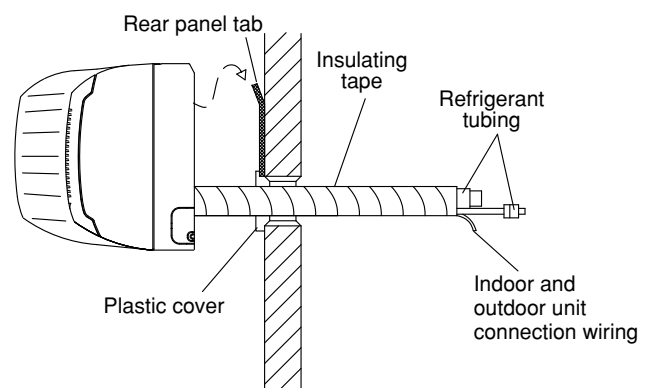

Fig. 3-60
- (1) Shape the refrigerant tubing so that it can easily go into the hole. (Fig. 3-60)
- (2) After performing a leak test, wrap both the refrigerant tubing and drain hose together with insulating tape. The drain hose should be positioned below the refrigerant tubes, and should be given sufficient space so that no strong tension is applied to it.
- (3) Push the wiring, refrigerant tubing and drain hose through the hole in the wall. Adjust the indoor unit so it is securely seated on the rear panel.